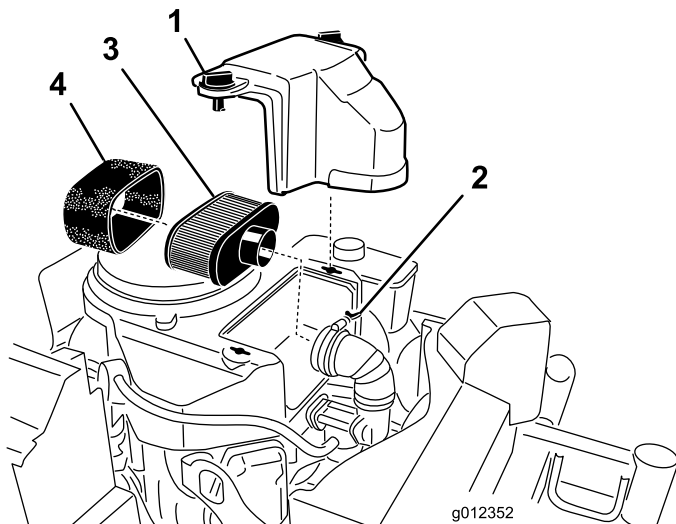

Figure 28
3. Clean around the air cleaner to prevent dirt from getting into the engine and causing damage (Figure 28).
4. Unscrew the cover knobs and remove the air-cleaner cover (Figure 28).
5. Unscrew the hose clamp and remove the air-cleaner assembly (Figure 28).
6. Carefully pull the foam element off the paper element (Figure 28).
1. Do not clean the paper filter, replace it (Figure 28).
1. Carefully slide the foam element onto the paper air-cleaner element (Figure 28).
2. Place the air-cleaner assembly onto the air-cleaner base, and secure it with the 2 wing nuts (Figure 28).
3. Place the air-cleaner cover into position and tighten the cover knob (Figure 28).